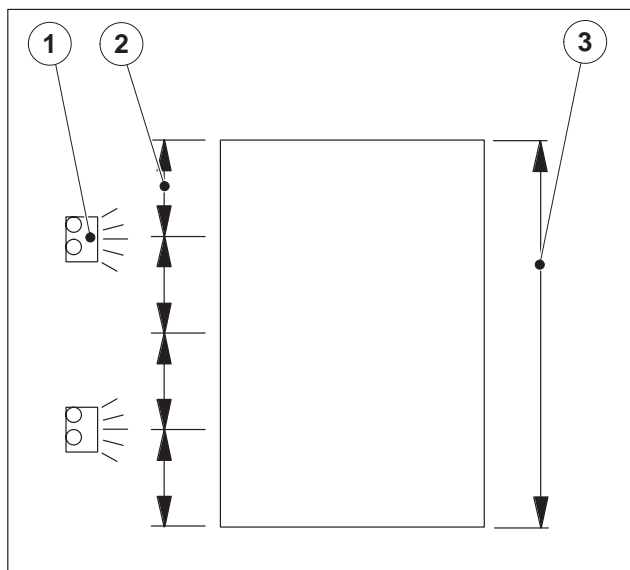

Fig. 40
2. Adjust the ion blower to the format. Position the ion blowers on the first quarter (Fig. 40) of the sheet width on D.S. and O.S.